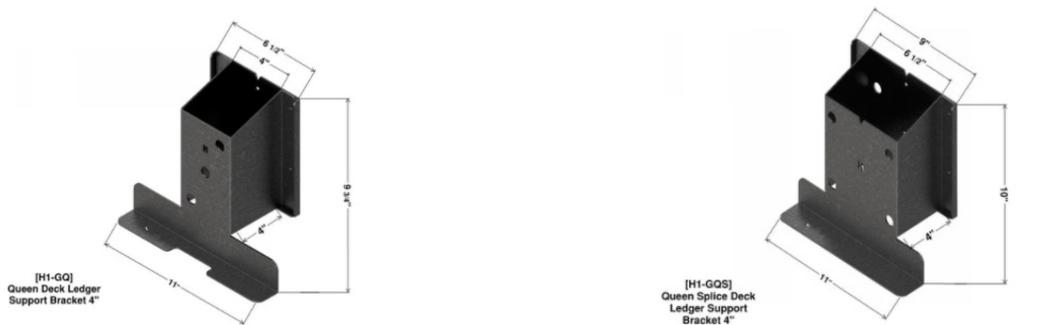

FIGURE 1—H1-GQ Bracket (Left) and H1-GQS Bracket (Right)
3.2 H1-GQ Queen Brick Deck Ledger Support Bracket: The H1-GQ Queen Brick Deck Ledger Support Brackets are used to attach deck ledger boards directly to rim boards in the adjacent building through a masonry veneer. See Figure 1.
3.3 H1-GQS Queen Brick Deck Ledger Support Splice Bracket: The H1-GQS Queen Brick Deck Ledger Support Splice Brackets are used to attach adjoining deck ledger boards at splice joint locations directly to rim boards in the adjacent building through a masonry veneer. See Figure 1.